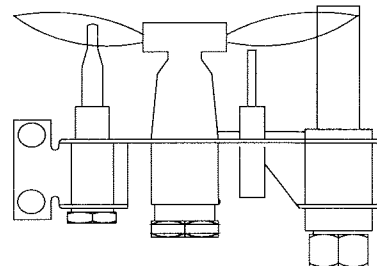

Figure 11. Pilot Burner
2. Adjust pilot key to provide properly sized flame. (See figure 11).